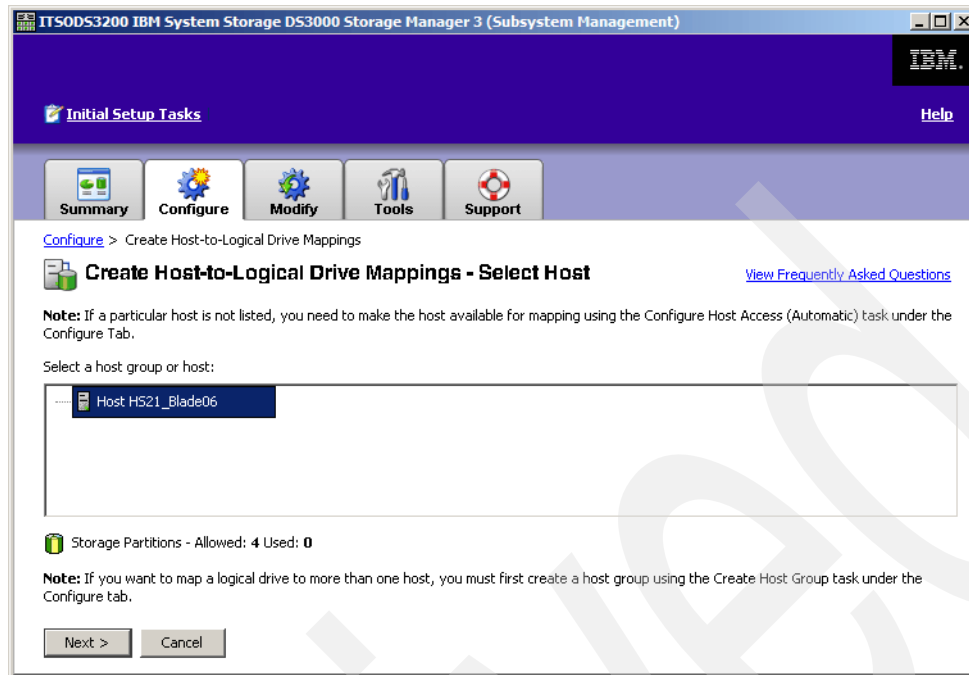

Figure 20-33 Host selection
10. The next window presents the host previously created, as shown in Figure 20-33 on page 469. Select the host and click **Next**.